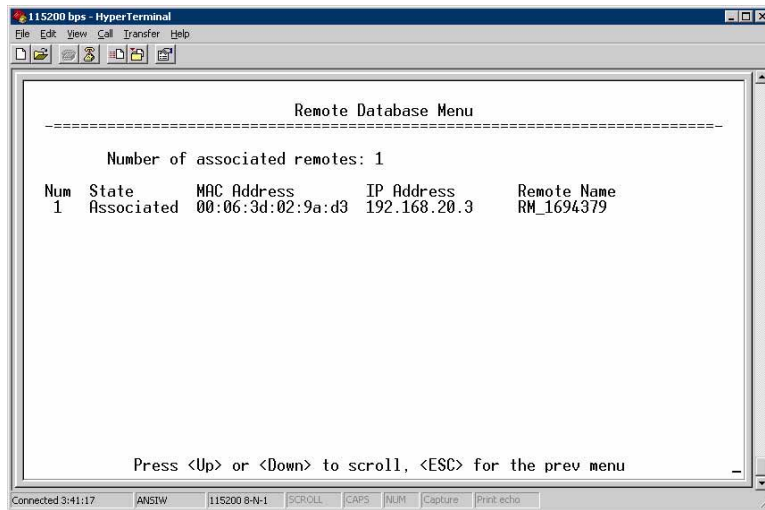

Figure 3-81. Remote Database Menu
- ⌘ **Remote Database (AP Only)** □ Displays a submenu where associated Remotes are listed in table form according to their number, operational state, MAC address, IP address, and name (if assigned). (See Figure 3-81 on Page 110.)